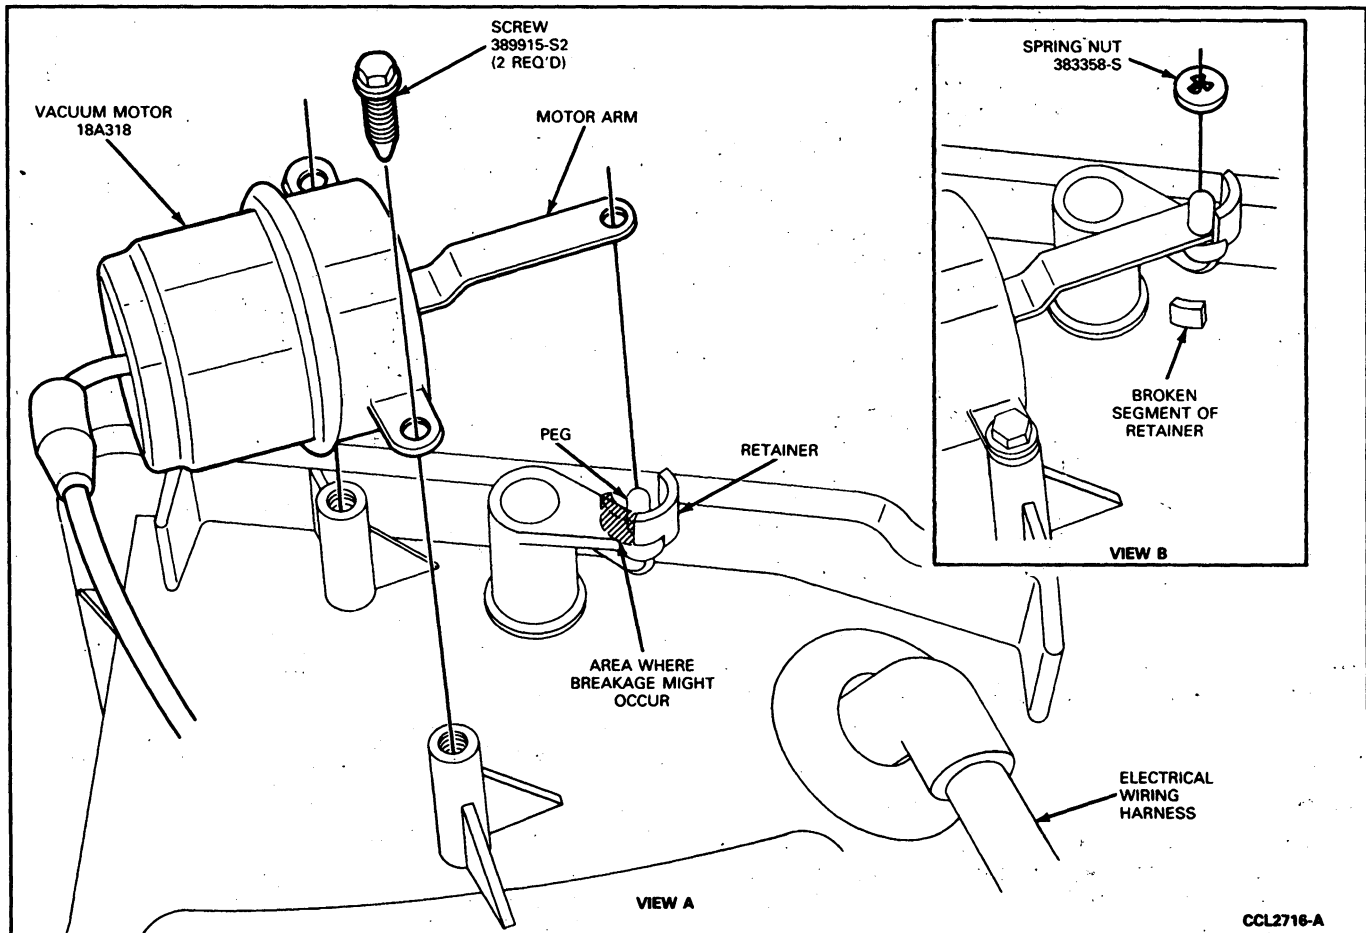

FIG. 15 Outside Air Door Vacuum Motor Removal
3. Pry the motor and arm assembly upward at the arm end to free it from its mounting peg. A retaining flange which is an integral part of the crank, peg, and flange component may partially obstruct the motor arm in its upward movement along the peg. If this retaining flange should break off when forcing the motor arm upward, a 3/16 inch spring nut (Part No. 383358-S) must be used to retain the motor arm when the same or replacement motor is installed. Figure 15 illustrates motor removal in View A and the area in which retainer flange breakage might occur in View B.